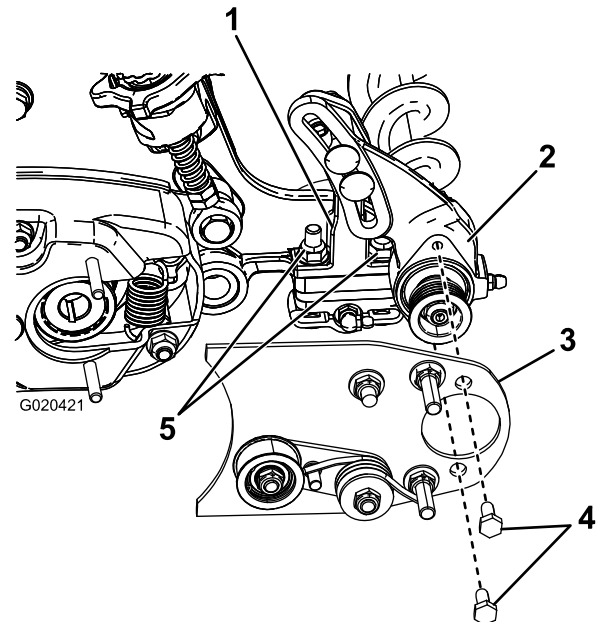

Figure 7
3. Apply 242 Loctite (blue) to the 2 bolts (5/16 x 5/8 inch) and use them to mount the brush plate to the roller-brush bearing housing (Figure 7).